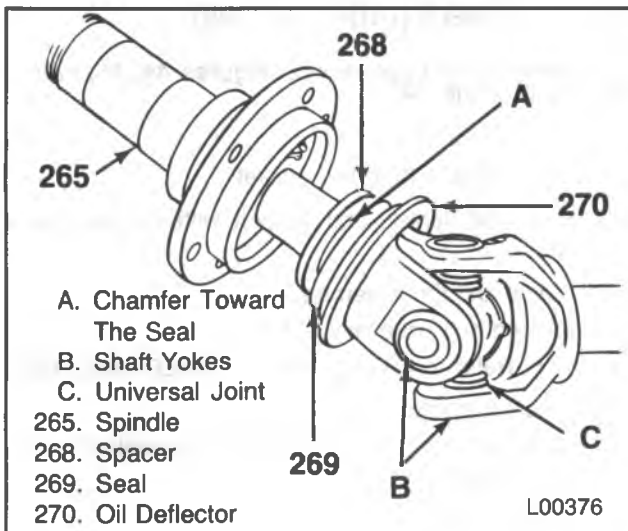

Figure 59 — Installing the Spindle
- Seal (269) onto the oil deflector (270) with the deflector lip toward the spindle (265).
- Oil deflector (270) and seal (269) onto the axle shaft.
- Spacer (268) onto the axle shaft.
- The chamfer points toward the oil deflector (270) (figure 59).
- Spindle (265) onto the steering knuckle (274).
- Slide the spindle over the axle shaft until it seats on the steering knuckle. The bolts (278) must protrude through the spindle.
- Bracket (264) and plate (263).
- Only V30/3500 models use a bracket (264).